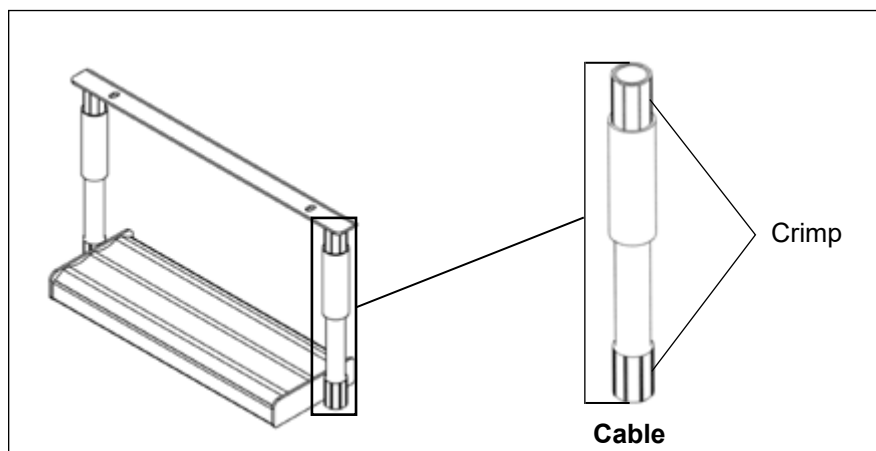

Figure 2 — Inspecting the Cable Step
3. Locate the first cable step and confirm if there is no crimp, a 2-ridge crimp, or an 8-ridge crimp at the connection point where the pipe meets the cable (refer to Figures 2, 3, 4, and 5). Record the results in the Inspection Results table on page 5.